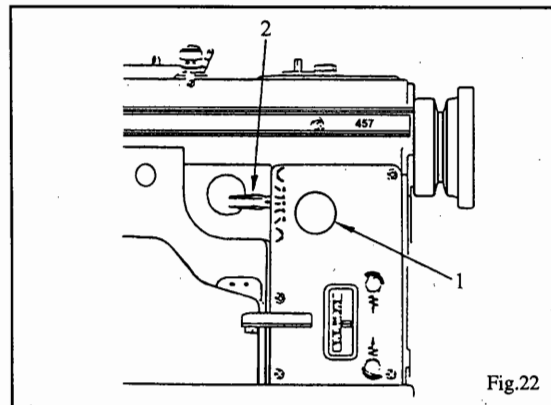

Fig.22
To regulate the width of zigzag stitch, loosen thumb screw (1), Fig.22, and set lever (2) to desired setting.